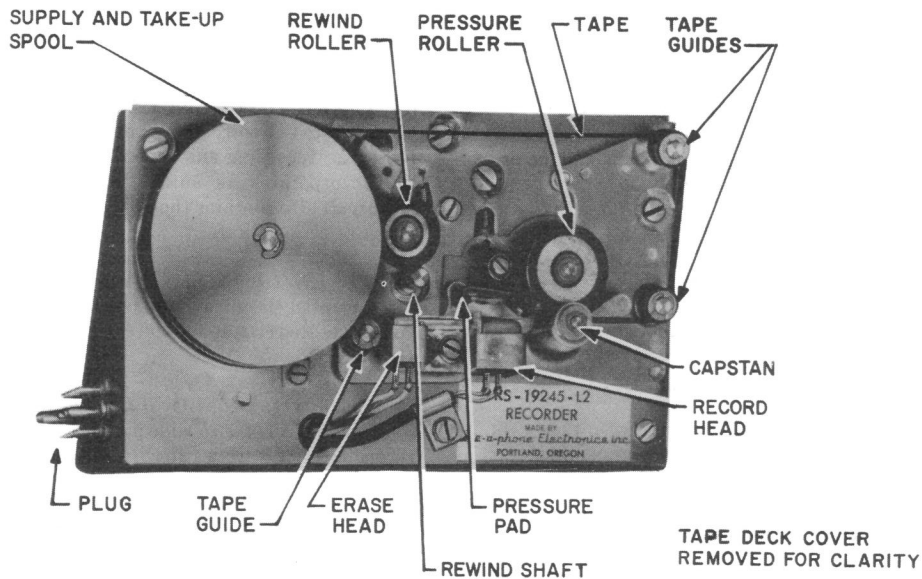

Fig. 4—KS-19245, List 2 Recorder (Reel Side)
- (a) **The KS-19245, List 2 Recorder** (Fig. 4 and 5) is the announcement recording mechanism. It provides a maximum recording capacity of 3 minutes, and incorporates a variable cycle feature that limits the reproduce cycle to the duration of the recorded announcement only. This recorder is equipped with 1/4-inch wide plastic base magnetic recording tape installed on special reels. The tape and reels form an integral part of the recording mechanism and **cannot** be changed by the customer since replacement of either requires partial disassembly of the mechanism. Facilities are provided for limiting the maximum recording time to 15-second increments (from 15 seconds to 90 seconds) or 30-second increments (from 90 seconds to 180 seconds). This is done by adjusting the variable limit switch assembly. The adjustment may only be made by the installer.